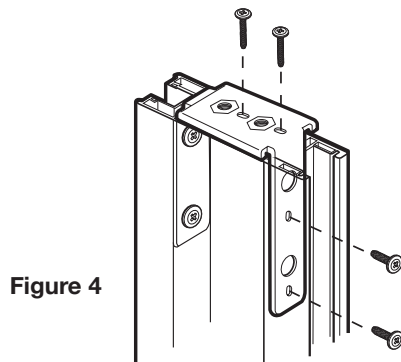

Figure 4
Lay one of the Stiles (A) onto work surface. Make sure the side with the large holes is facing outward. Insert U bracket (G) into the Top of the stile into the outside channel and the innermost channel. The side of the U clip with the larger holes should be facing the outside edge of the door. The top of the U clip will rest on the top of the stile once inserted. See Figure 4.
Insert two small screws (Q) into the oval holes on top of the U bracket and secure to the top of the stile. Take 2 small screws (Q) and secure into the oval holes in the outside of U bracket (G). This will be the outside channel of the stile. See Figure 4.